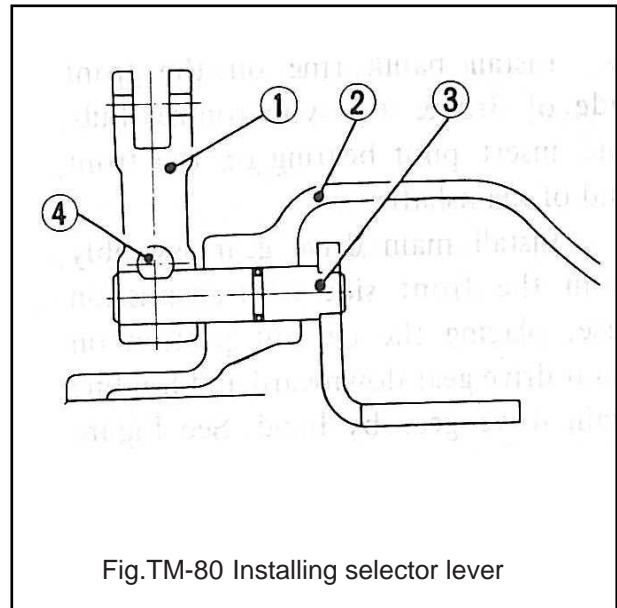

Fig.TM-80 Installing selector lever
2. Insert selector shaft into selector lever through the hole in gear shift housing. See figure TM-80.